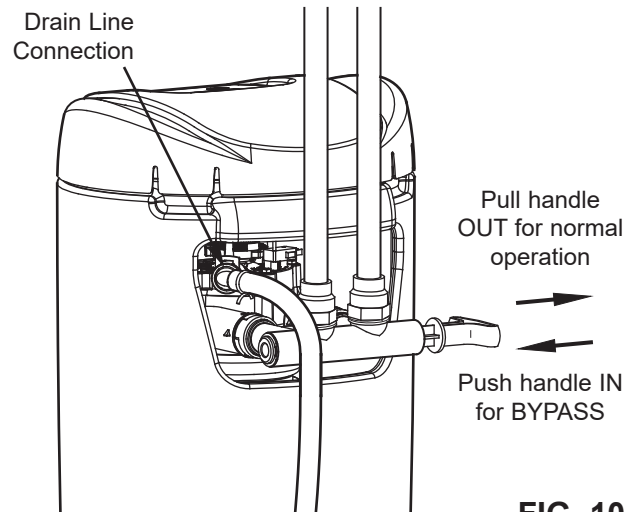

FIG. 10
1. Measure, cut to needed length and connect the 9.5 mm drain line (provided) to the Whole Home Water Filtration System valve drain fitting (See Figure 10). Use a hose clamp to hold the hose in place.
1. Make sure the single bypass valve (or 3 valve bypass, if installed) is in the bypass position, with the handle pushed in (See Figure 10).
4. Slowly move the bypass valve(s) to the normal operation position, pausing several times to allow the unit to pressurize slowly (See Figure 10).